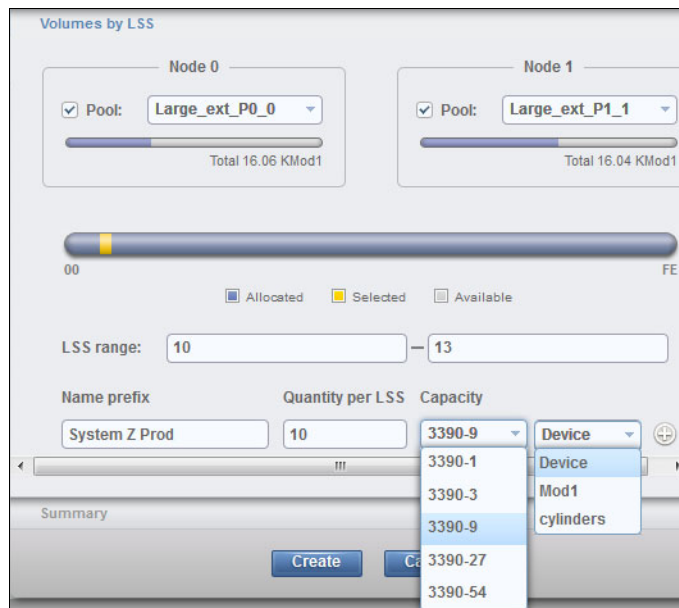

Figure 11-100 Create CKD Volumes: Advanced: Volumes by LSS
- Now click the **Volumes by LSS** tab to display the Volumes by LSS window, as shown in Figure 11-100.